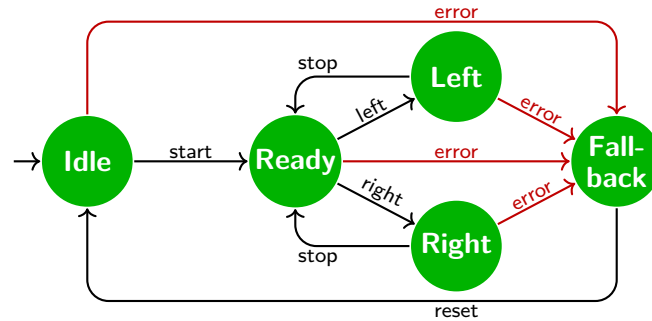

Figure 2: General behaviour of the controller component
**Controller behaviour** The overall behaviour of the **controller** is summarised in fig. 2. Initially the **controller** is idle, where it must remain for at least 1000ms to perform some bootstrap self-tests. It can
While in states Ready, Left, and Right (c.f. fig. 2, the two **controllers** check if they are consistent. More specifically, every 100ms each of the two **controllers** should check if the other controller is in the same state, using shared variables. After 3 failed attempts this controller should raise an error and go to its fallback state.